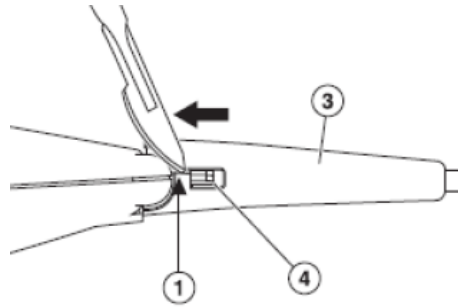
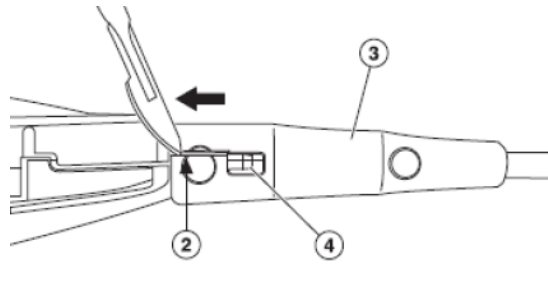

Figure 1. Strain Relief cut location (top of device)
Figure 2. Strain Relief cut location (bottom of device)
2. *Separate the gray strain relief from the handle using an 11-blade scalpel to cut the gray strain relief on the top and bottom of the handle. Cut from the white tabs toward the handle. See Figure 1 and Figure 2.*
3. *Use a hemostat to slide the strain relief down the catheter and away from the handle. See Figure 1 and Figure 2.*